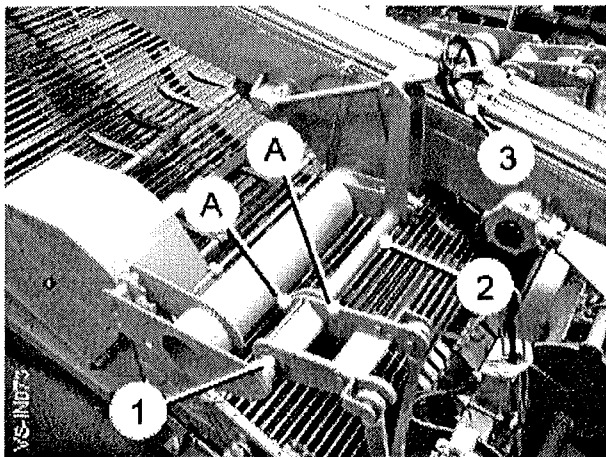

Fig 8
The rubber torsion spring suspension on the digger assembly is designed to reduce pressure on the ridges and allow accurate, sensitive depth control from the diablo rollers. The torsion springs (item 1, fig 8) are mounted on the cross shaft (item 2, fig 8) which is linked to each side of the digger assembly. The holes (item A, fig 8) are provided to lock the springs out of work if required.
The setting of the digger suspension can only be effectively carried out when the machine is in work. To set the required amount of spring suspension the hand wheel (item 3, fig 8) should be screwed down until, when the harvester is travelling forward, the diablo rollers lift easily each side of the digger thus maintaining the share depth. Too much spring assistance will cause the digger to ride out of work, while too little will compact the ridge and in turn may lead to crop damage. The optimum setting for the suspension will vary for different soil and crop conditions, therefore the operator will need to monitor the setting especially when changing from one field to another.